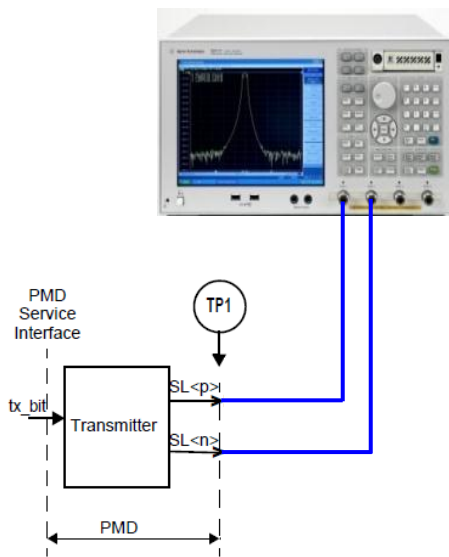

Figure 5-1 Differential/Common-mode Output Return Loss (Tx) Test Setup
2. Connect the DUT's transmitter to the E5071C with the RF cables (Figure 5-1).